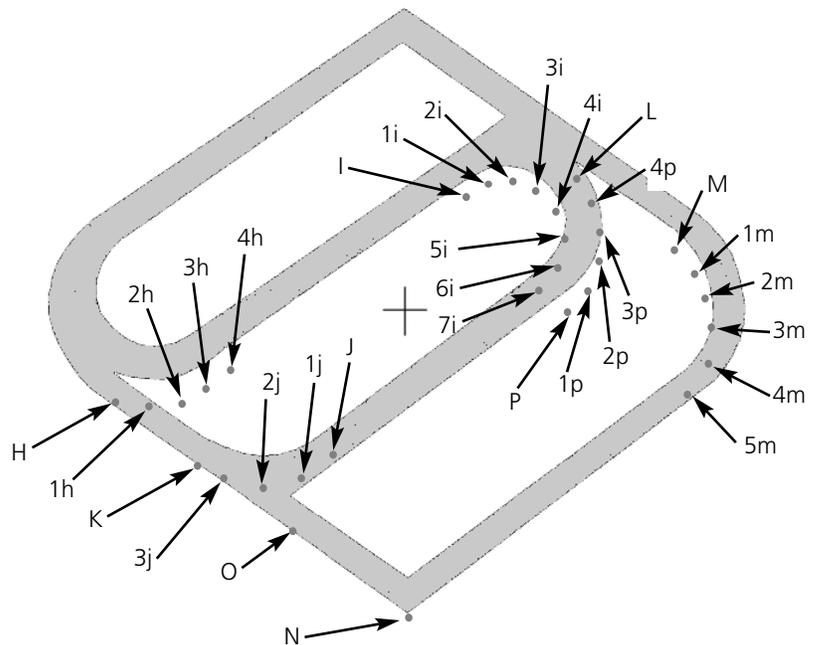

Figure 5-68
1. Continue to follow the points shown in Figure 5-68 in their alpha-numeric order. Enter the Mk1 from H through to the last Mk4 at location 4p near the top point of the lower section of the logo. Enter Mk1s at the capital letter points defining lines, and Mk4s at the numbers associated with lower class letters defining arcs.